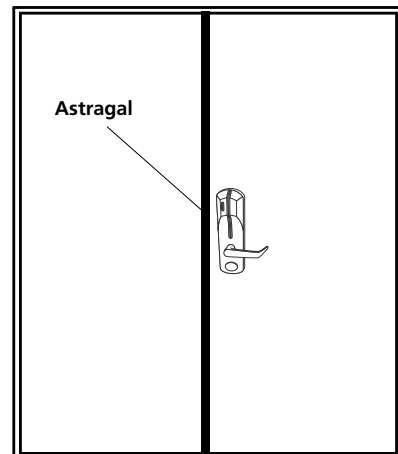

Figure 3
*An astragal is a strip running the length of the passive door opposite the hinges. (see Figure 3).